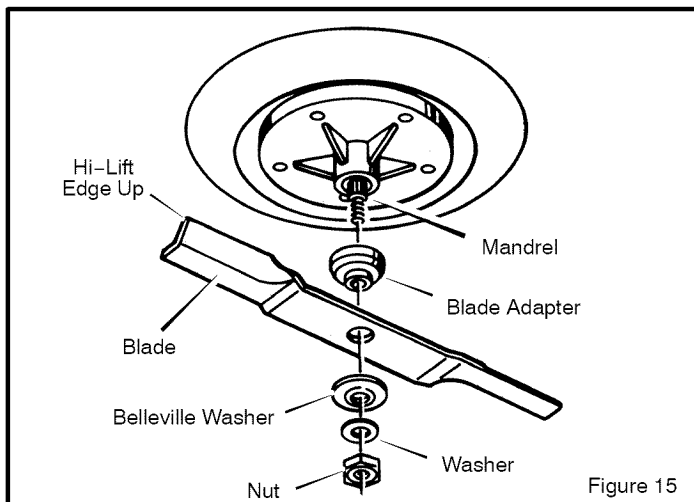

Figure 15
3. Remove the **nut**, **washers**, and **blade** (Figure 15).
1. Mount the **blade** and **blade adapter** on the **mandrel** (Figure 15).